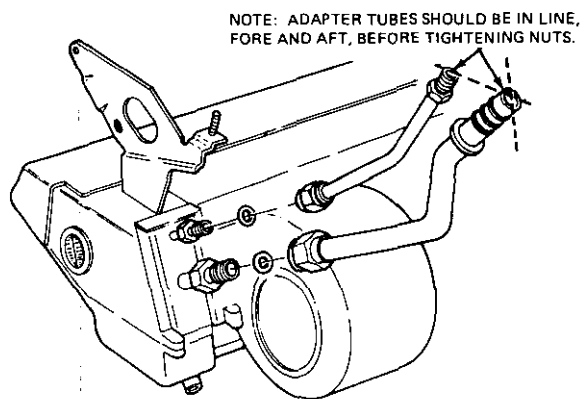

Figure 9B-185 Evaporator Inlet and Outlet Pipes and O-Rings
6. Install 2 attaching case mounting bracket to instrument panel screws. See Figure 9B-182.
8. Install evaporator inlet and outlet pipes retainer and rubber grommet. See Figure 9B-178.